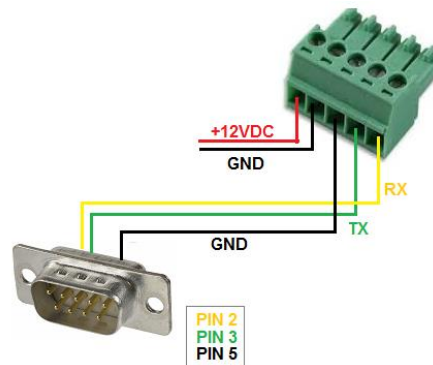

Figure 1: Example 3000-IO Power and Serial Connector
2. Verify that power and ground are supplied to the correct pins. See Figure 1 example.